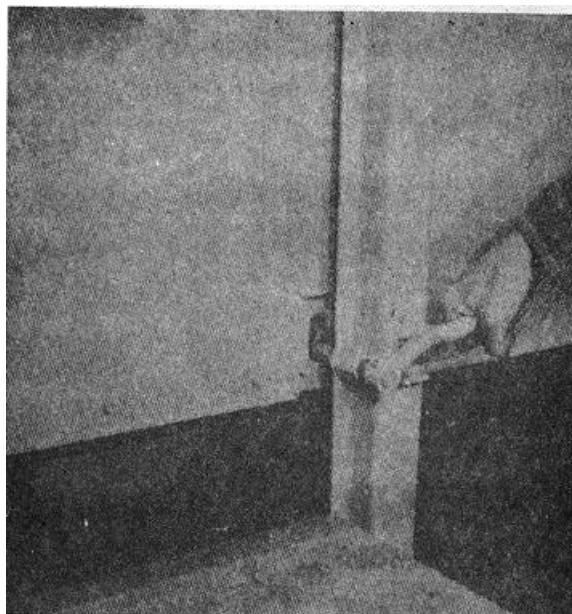
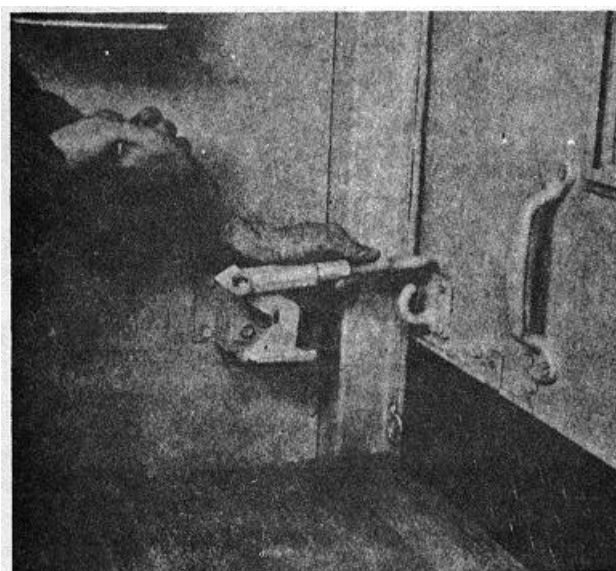

Figure 30. Opening folding shop sides, step II.
Figure 29. Opening folding shop sides, step I.
b. *Opening of van.* All van sides open from inside the van (fig. 29 and TM 9-2330-23814)
- (1) Release overcenter clamps, front and rear, at top of each door.
- (2) Release locks on center post, two on each side (fig. 30 and TM 9-2330-23814).